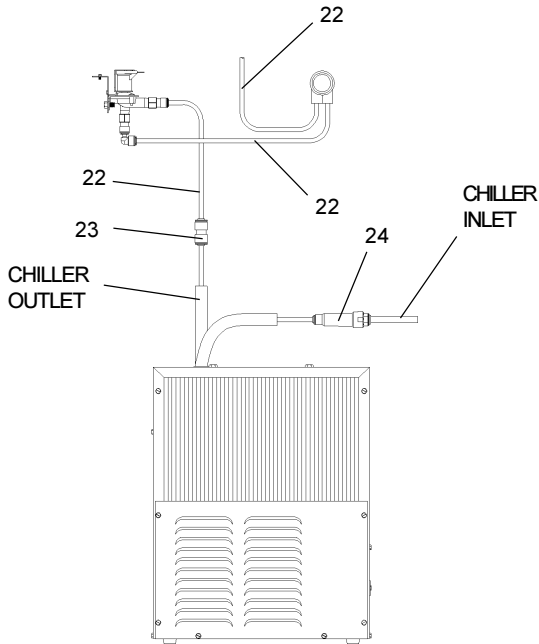

Figure 3 - ENO Tube Routing
3. **Make water supply connections.** Inlet port is marked on the chiller (1/4" O.D. copper tube). Bend the copper tube (provided) at an appropriate length from the chiller to opening in frame. Install the in-line strainer (provided with chiller) by pushing it in until it reaches a positive stop, approximately 3/4" (19mm) on the marked chiller inlet port (See Figs. 3) (Refer to Fig. 12 on page 7 for details on assembling quick connect fittings). Attach an unplated and deburred copper water inlet line and a service stop (not provided) to the chiller. Turn on the water supply and flush the line thoroughly.
4. **Make connection between remote chiller outlet tube and solenoid valve assembly.** Outlet port is marked on the chiller (1/4" O.D. copper tube). Install a 1/4" union (provided) on the marked chiller outlet port. Insert one end of 1/4" poly tubing into the union and the other end into the straight fitting on the solenoid valve assy (See Fig. 3)
9. **Make connection between solenoid valve assembly and fountain(s).** Insert the 1/4" poly tubing coming from the fountain with sensor into the solenoid valve. (See Fig. 3)